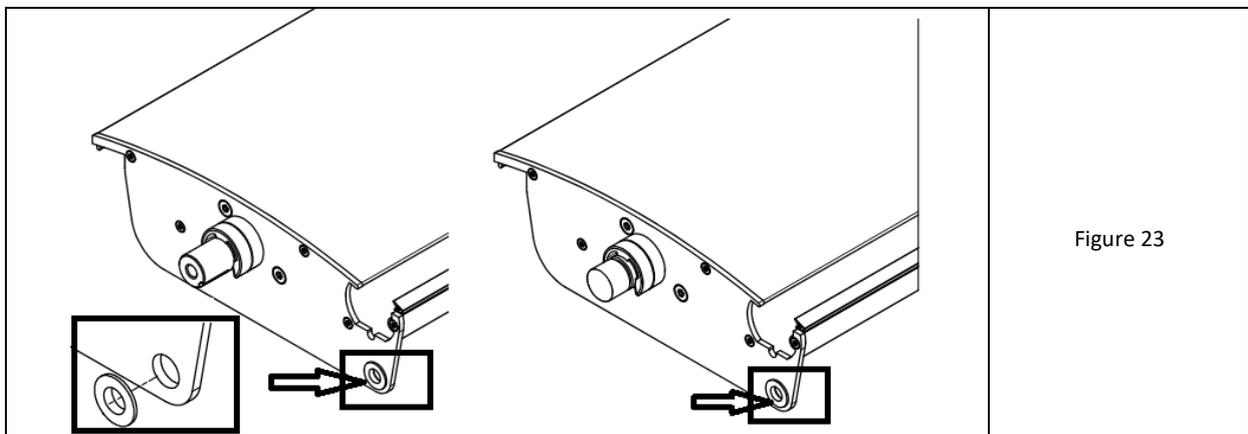

Figure 23
4. Thread small plastic slip rings onto the holes in the lower corner of the plugs from the outside (fig.23). The feather pins do not have factory-applied Clip spacer rings.